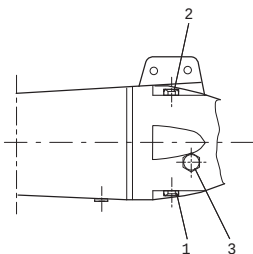

Fig. 32 Oil check and oil filling
If required, fill oil into the gearbox/shaft seal housing through the oil filling hole (pos. 2). See fig. 32. For oil quality and quantity, see section 9.4.1 *Oil quality, gearbox and shaft seal housing*.